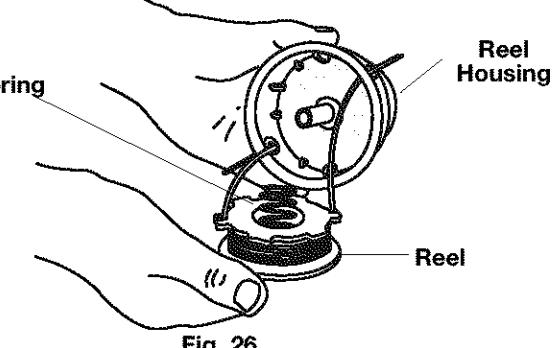

Fig. 26
- Insert one line end through each of the eyelets in the reel housing, and insert the reel and spring back into the reel housing (Fig. 26).